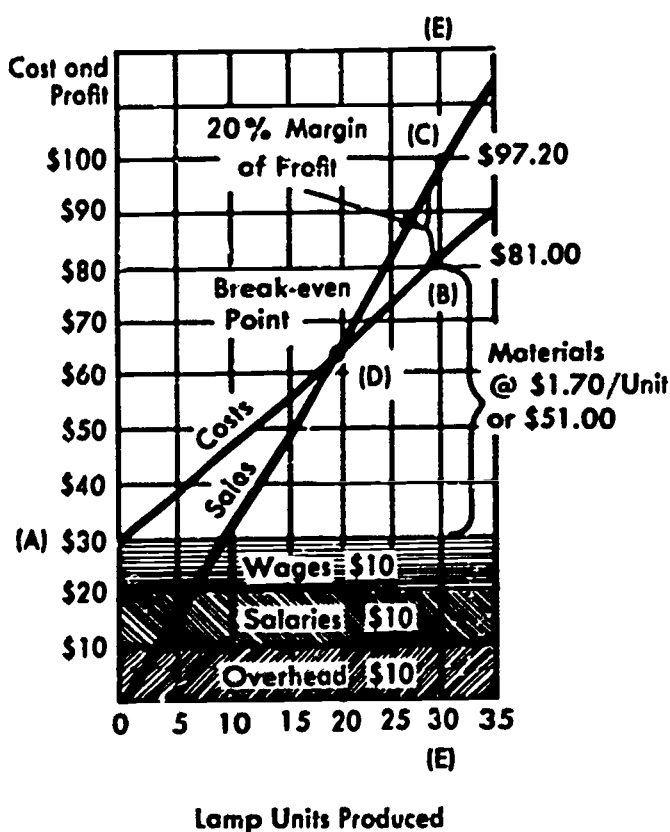

Fig. 80-2. Sample Break-Even Chart
6. Big business begins in much the same way. You will now study the Break-Even Chart, Fig. 80-2, Estimating Profits and Keeping Records, for your newly-formed corporation.
7. Your teacher will help you study, step-by-step, the way a break-even chart is arrived at. (Have Fig. 80-2 in front of you.) Find each point and line as they are mentioned.